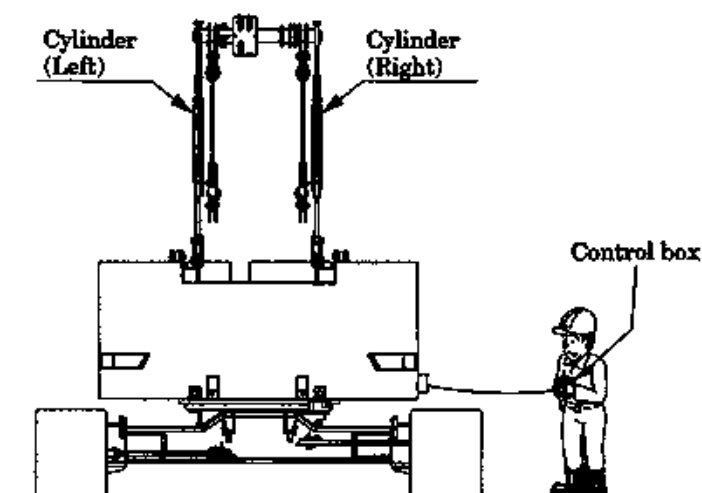
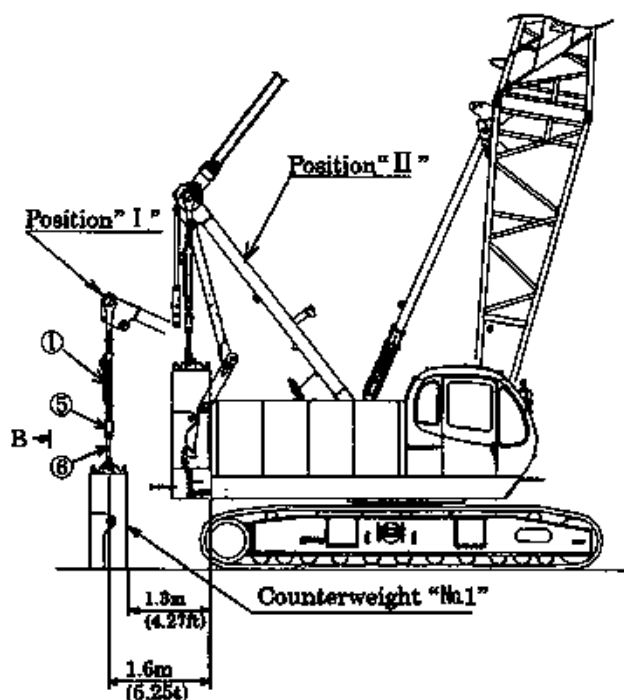
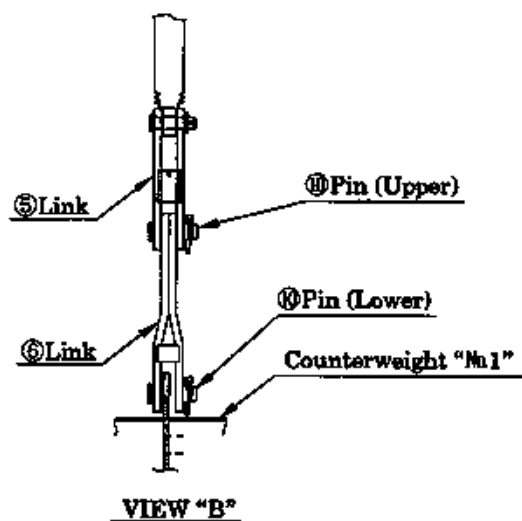
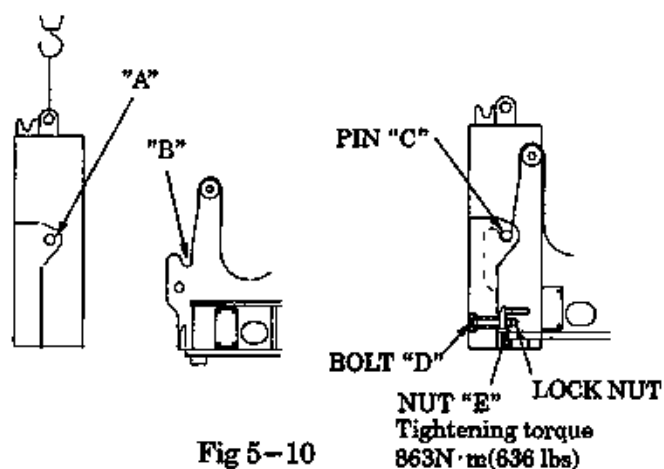

Fig 5-9
Fig 5-9A
Fig 5-9B
Fig 5-10
1. PRECAUTION FOR OPERATING CONTROL BOX (FIG.5-9, FIG.5-9A)
2. INSTALLATION OF COUNTERWEIGHT NO.1 (FIG. 5-9A, FIG. 5-9B, FIG. 5-10)
- (1) Place the machine so that the rear end of the deck is approx. 1.3 m (4.27 ft) apart from the counterweight No. 1. Then, fully retract the right and left lift cylinders ①, and set the gantry as per the "Position I" shown in the right figure by boom lowering operation (Fig. 5-9A).
- (2) Connect the link ⑥ and the link ⑤ with the pin ⑩ (Fig. 5-9B).
- (3) Connect the link ⑥ and the counterweight No. 1 with the pin (lower) ⑩ (Fig. 5-9B).
- (4) Raise the gantry by boom raising operation so that the gantry is as per the "Position II" shown in (Fig. 5-9A).
- (5) Lower the counterweight No. 1 onto the swing frame by operating the control box, while keeping a balance of the right and left lift cylinders ① (Fig. 5-9A).
- (6) Place the portion "A" of No. 1 weight to the portion "B" of the basic machine (Fig. 5-10).
- (7) Pass the bolt "D" through the No. 1 weight, and fix the No. 1 weight to the frame with the nut "E". Then, lock it with the lock nut. Tightening torque: 863 N·m (636 lbs·ft)
- (8) Remove the pins (lower) ⑩ of the link ⑥ from the counterweight No. 1.